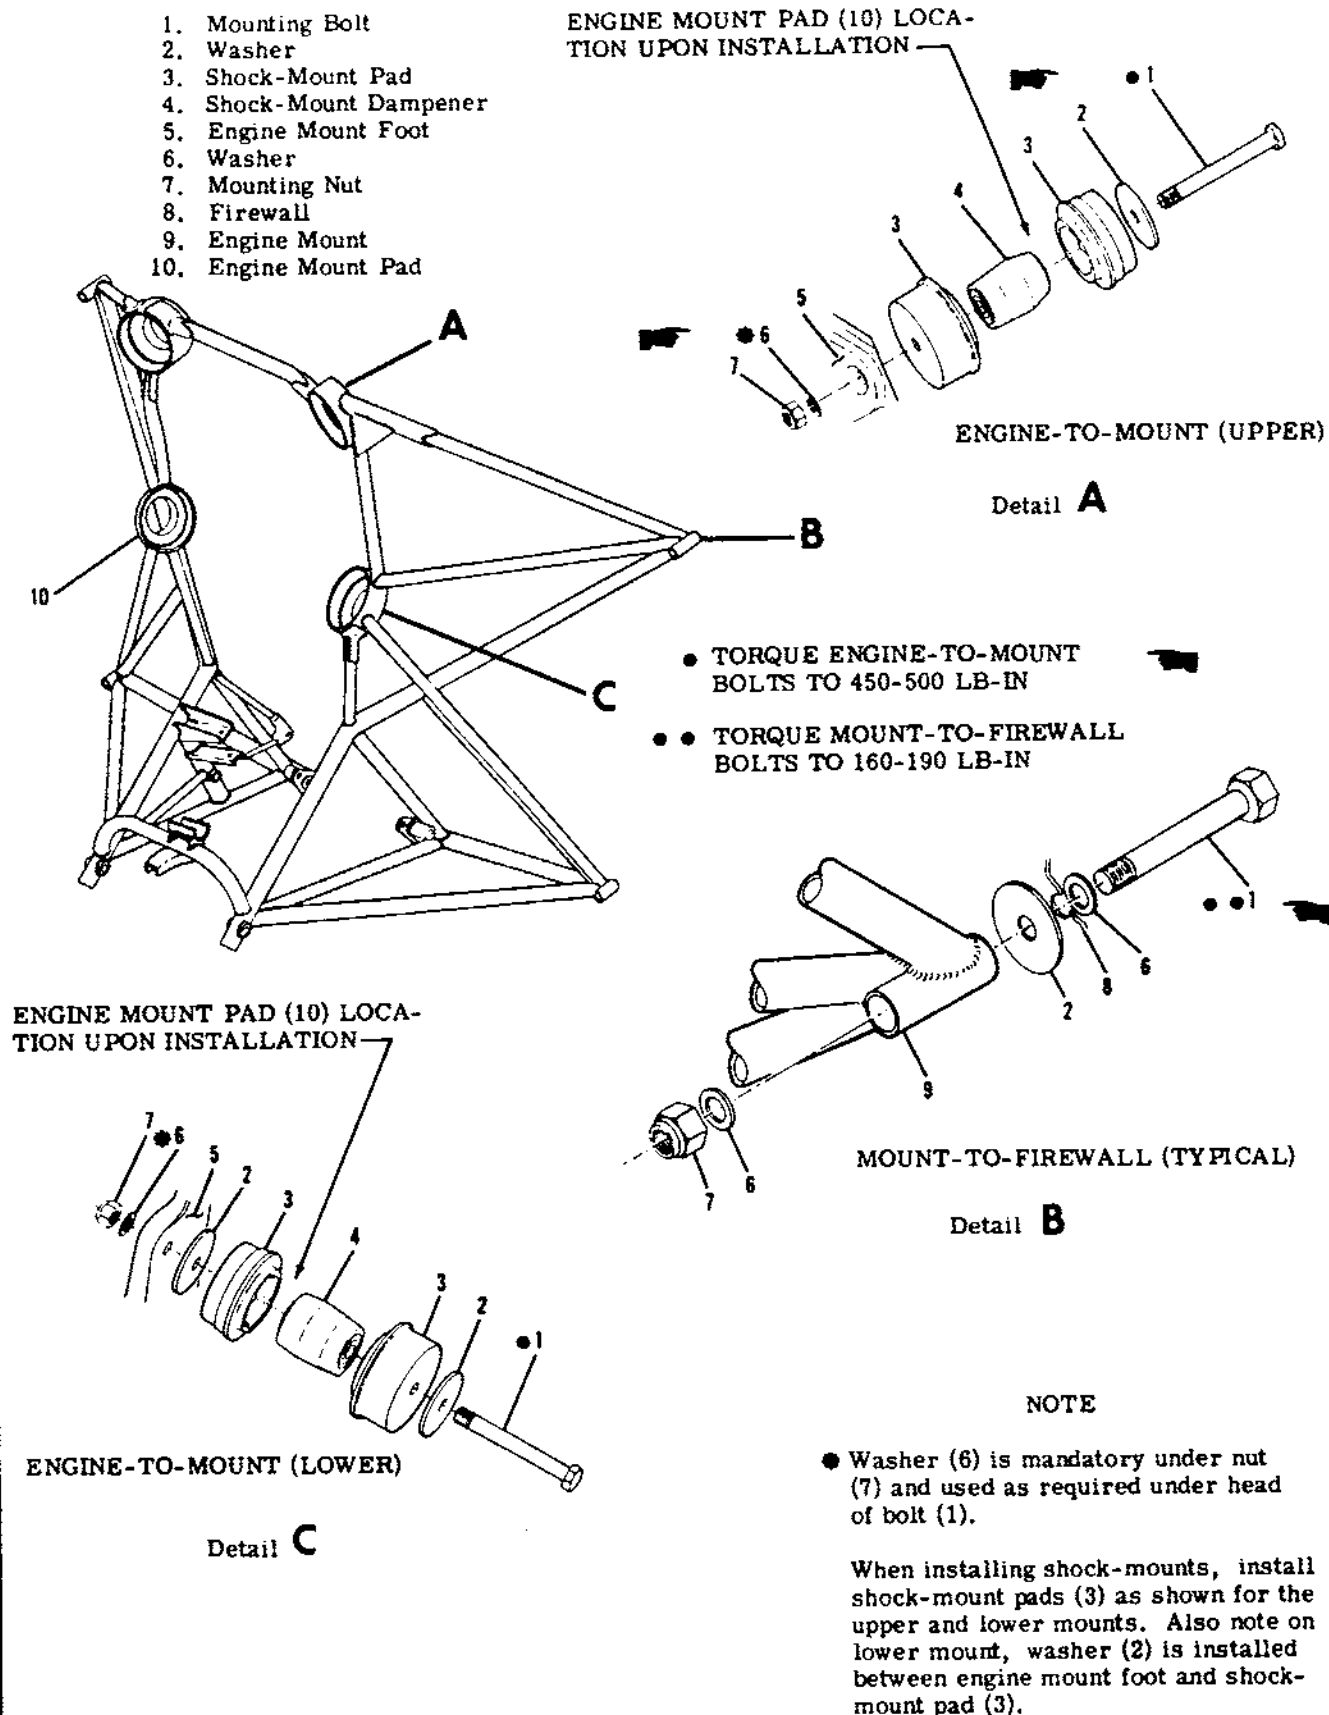

Figure 11-1. Engine Mount Details
- c. Install engine mount bolts. Install shock-mounts as shown in figure 11-1. Tighten engine mount bolts to the torque values shown in figure 11-1.
11-21. REMOVAL AND INSTALLATION. (Refer to figure 11-1.)
11-23. ENGINE SHOCK-MOUNT PADS. (Refer to figure 11-1.) The bonded rubber and metal shock-mounts are designed to reduce transmission of engine vibrations to the airframe. The rubber pads should be wiped clean with a clean dry cloth.